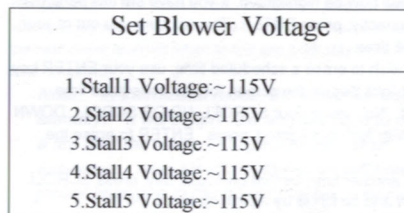

Figure 26
2. Using the SCROLL DOWN key, move down to option 4: "Set Blower Voltage". Press ENTER again to move into the "Set Blower Voltage" screen. SEE FIGURE 26.
4. Using the SCROLL UP or SCROLL DOWN keys, select the appropriate voltage. **NOTE: Voltage can be decreased or increased only in increments of five (5).**